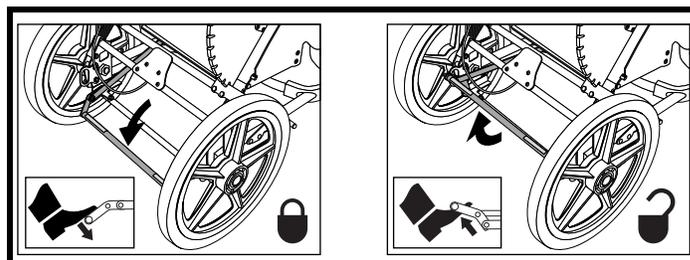

Figure 8. Kids ROCK 2 and ROCK 3 Attendant Wheel Lock (Engaged and Disengaged)
1. Use your foot to push down on the attendant wheel lock bar to engage the locks. See figure 8.
1. Pull up on the bar to release the attendant wheel locks. See figure 8.